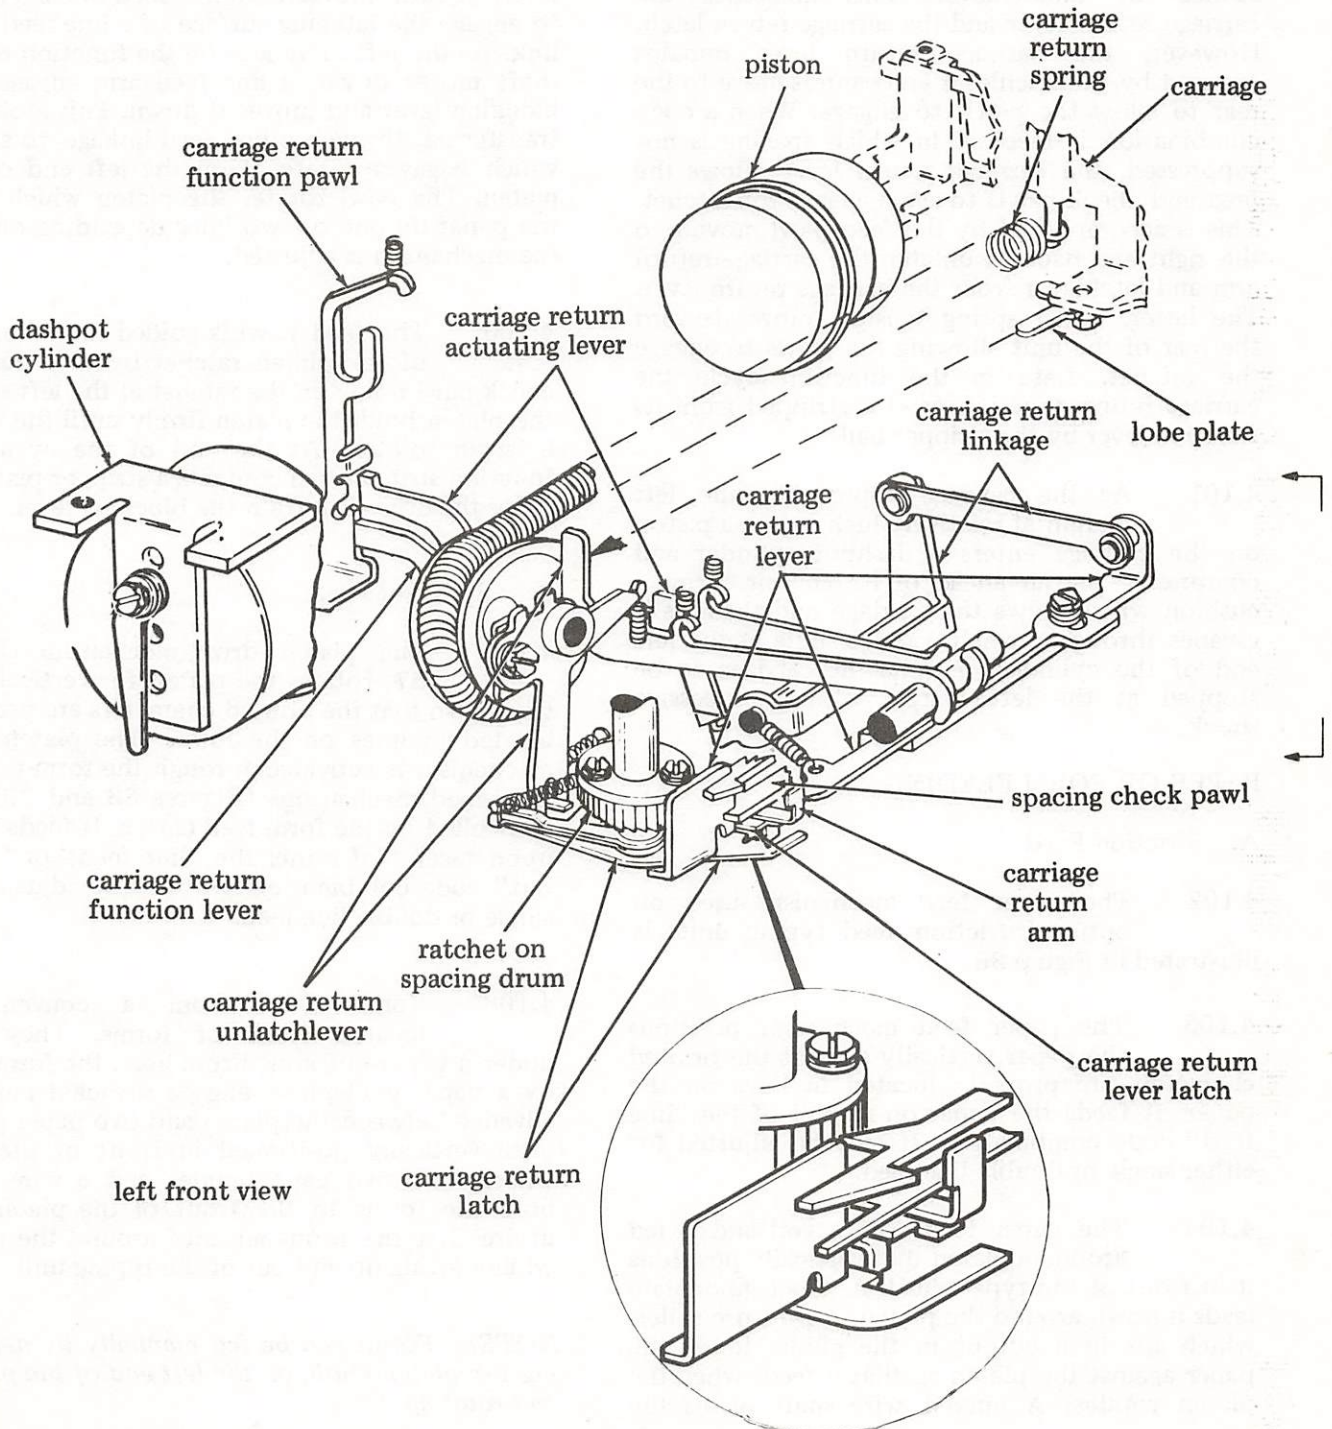

Figure 35 - Carriage Return Mechanism
4.99 When the "carriage return" code combination is received, the carriage return function lever moves up to its selected position, and engages the carriage return function pawl (Figure 35). As the function bail moves the lever and pawl down during the middle portion of the cycle, an extension on the pawl drives the carriage return actuating lever down also. This